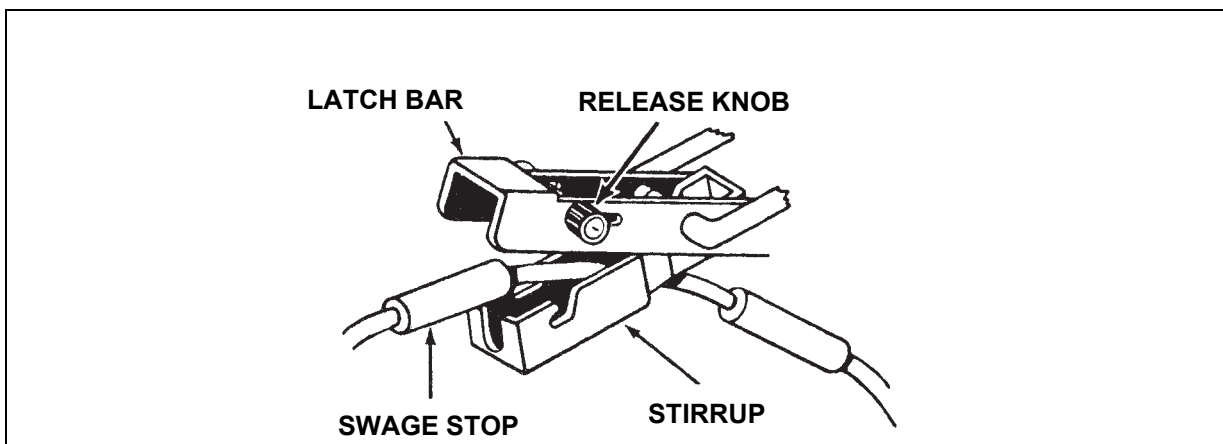

Figure 8-24. Tensioner
- Route the plastic covered wire rope under the pallet wing formed by the upper boards on the sides of the pallet. Pull the ends of the cable containing the swage stops through the tensioner (figure 8-24).